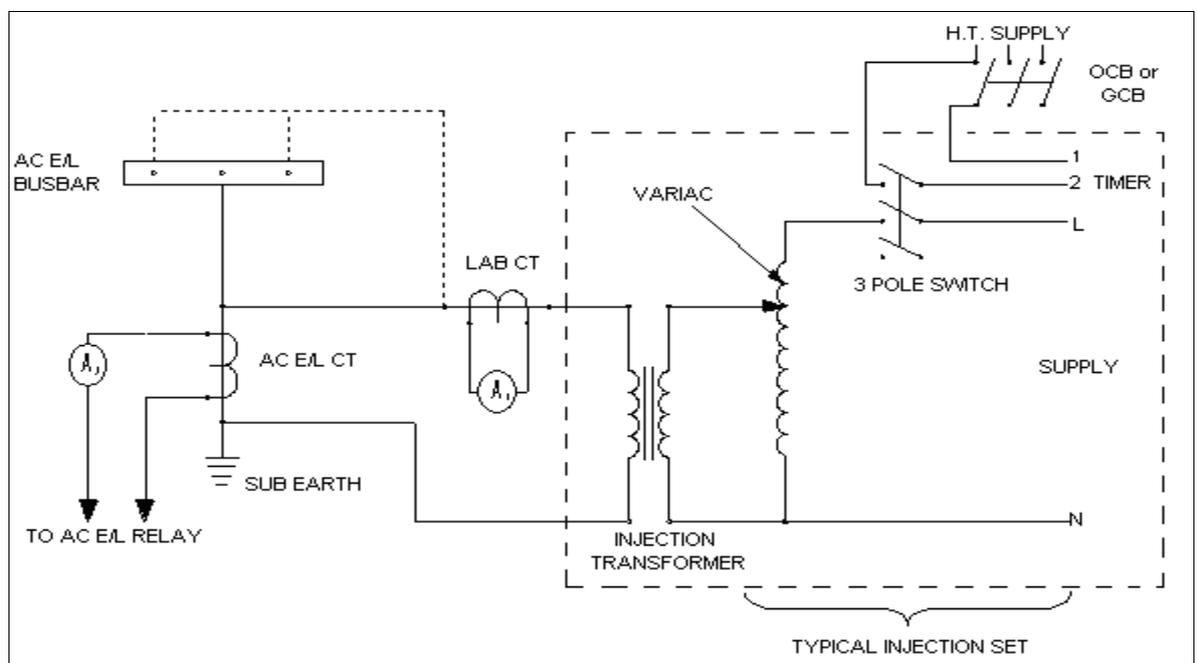

Figure 6.2: Circuit Diagram for Testing AC E/L Protection
- Inject alternating current through the AC earth leakage current transformer as shown in Figure 6.2, using a 250 Amp AC Injection Test Set.